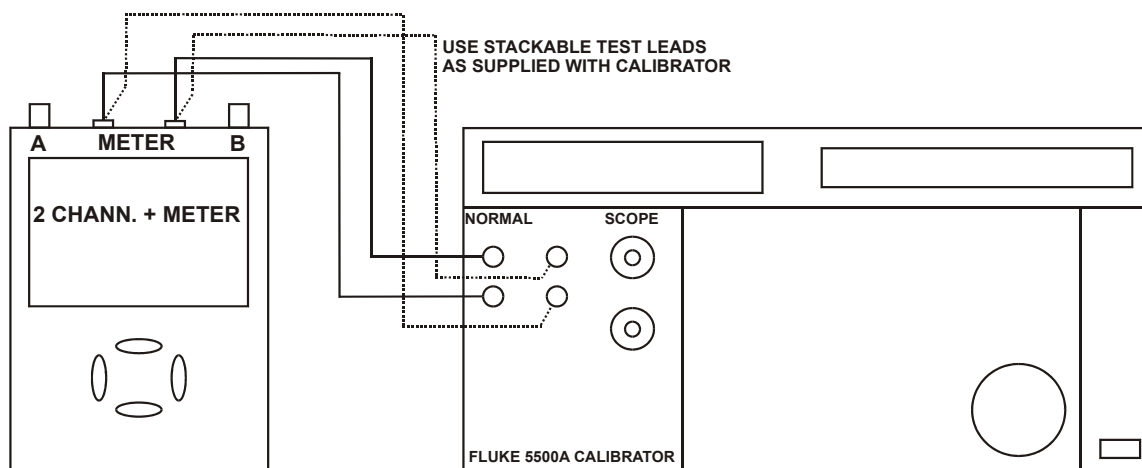

Figure 5-10. Four-wire Ohms calibration connections
2. Connect the test tool to the 5500A as shown in Figure 5-10.
7. Press **F4** to start the probe calibration. The first step is to manually adjust the square wave response to a pure square wave (pulse top must be straight, refer to fig. 5-10). The trimmer to be operated is located in the probe housing and can be reached by rotating the centre part of the housing. For further information refer to the probe instruction sheet. When done, press **F4** to start the DC calibration that is performed automatically. The Probe Calibration is OK if all instructions displayed on screen are finished successfully.